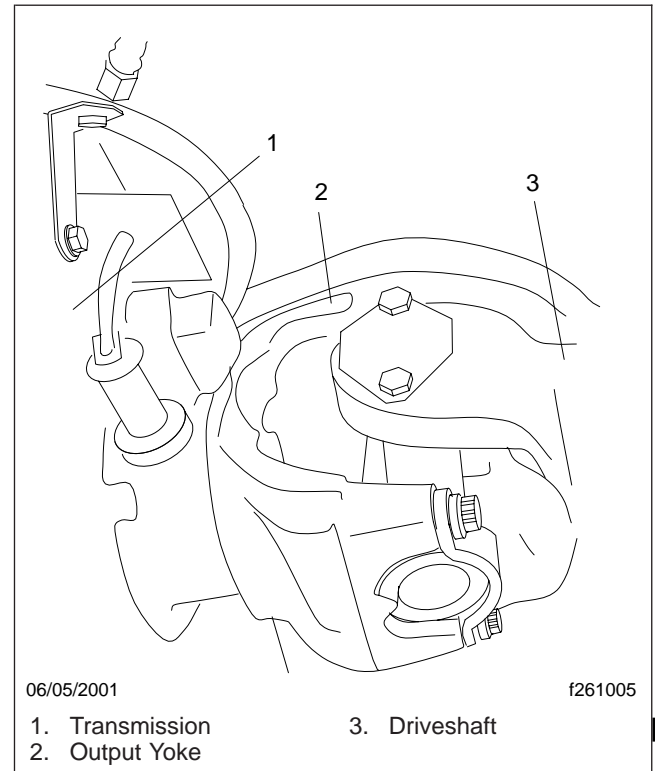

Fig. 2, Output Yoke
- 3.2 Remove the bolts from the U-joint end caps and slide the front of the driveshaft out of the transmission output yoke. See Fig. 2.